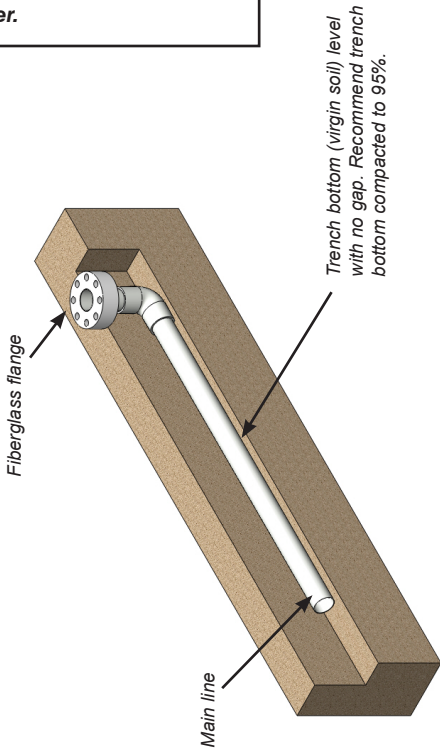

Figure 2
1. Figures 2 and 3 show various methods of securing Fiberglass risers. Methods vary according to soil and loading conditions.